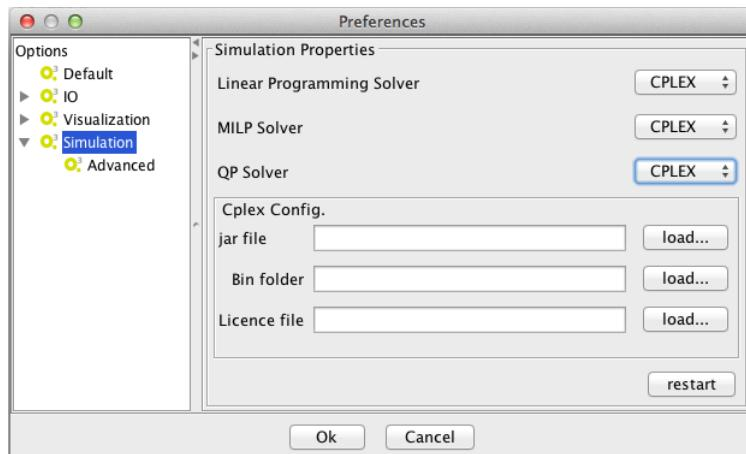

Figure 3: Solver selection - operation dialogue
After selecting the option “Simulation” on the left panel of the interface that is prompted, the available solvers are made accessible on the right-hand combo boxes (Figure 3). Here, the user should check the solvers for linear programming and Quadratic Programming (QP). If the user has access to CPLEX, this should be the chosen one (note that in this case, OptFlux needs to restart for the configuration to take effect). For QP tasks, GLPK cannot be used.